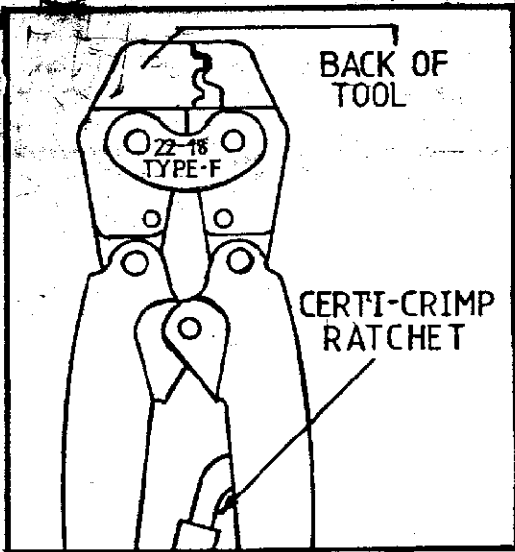
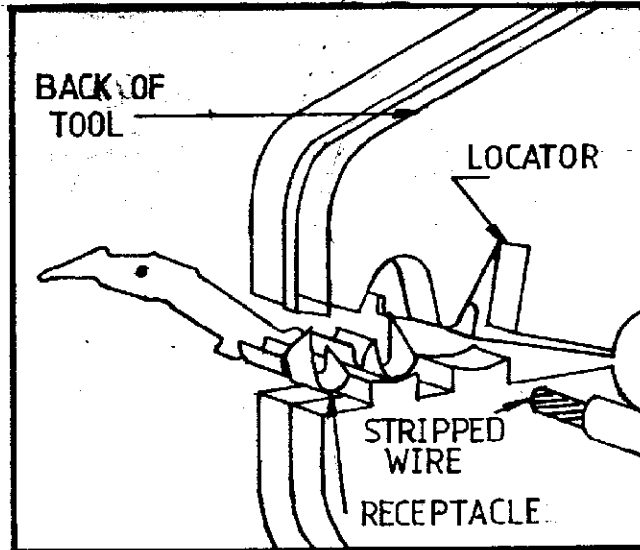
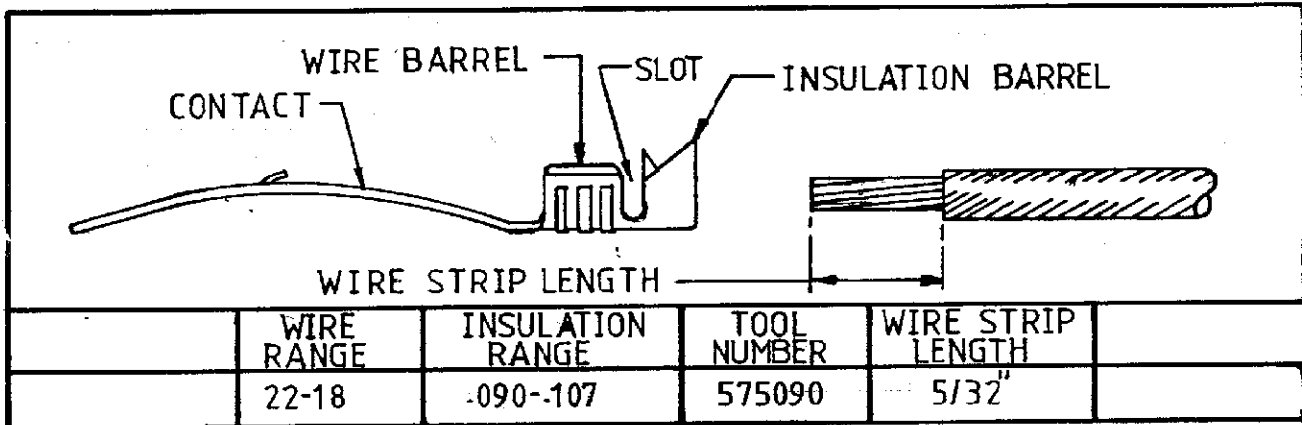

FIG. 1.
FIG. 2.
FIG. 3.
1. This tool (see Fig 1) will crimp the AMP Relay contact listed in Fig 3 on Stranded Wire only. Read these instructions carefully before using the tool.
2. WIRE STRIPPING - Strip Wire Insulation back from end of wire as shown in Fig 3.
3. CRIMPING PROCEDURE - (a) This tool is equipped with a Certi-Crimp Ratchet to ensure proper crimping. To open tool, squeeze handles until Ratchet releases. Note that once Ratchet is engaged, Handles cannot be opened until they are fully closed. See Fig 1. (b) Open tool Handles and place Terminal onto Locator as shown in Fig 2. Make sure Locator fits into slot between Terminal Wire Barrel and Insulation Barrel. See Fig 3. (c) Squeeze Handles so that Crimping Jaws close just enough to retain Terminal. See Fig 2. Do not deform Insulation Barrel or Wire Barrel. (d) Insert Stripped Wire into Terminal so that Insulation butts against Locator. See Fig 2. (e) Hold Wire in place and squeeze Handles until Certi-Crimp Ratchet releases. Remove crimped terminal from Tool.